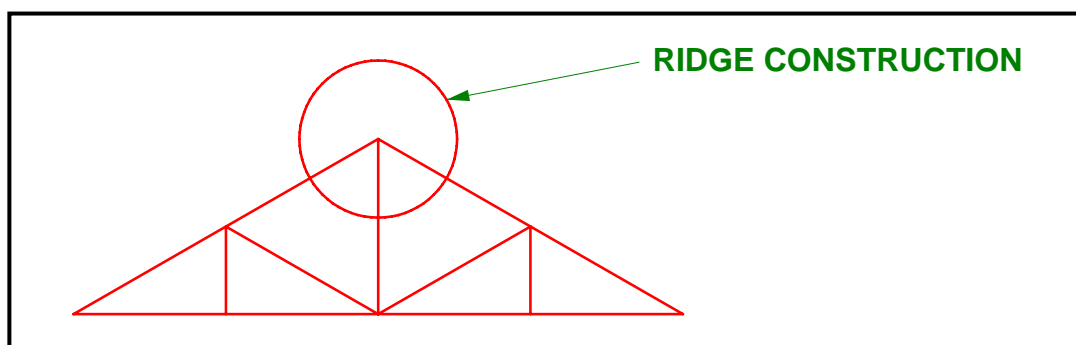

FIGURE 1.8
- 1.8 FIGURE 1.8 below shows a line diagram of a South African roof truss. Draw a neat, two-dimensional freehand sketch of the ridge construction of the truss in good proportion (the part in the circle).